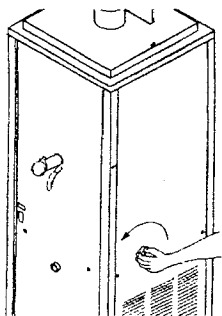

Fig. 4
C. Completely drain the product out of the freezer. Use the outlet located below the drip tray. The handle that controls this outlet is located on the right side of the freezer. Turn the handle counter-clockwise to open (See Fig 4).